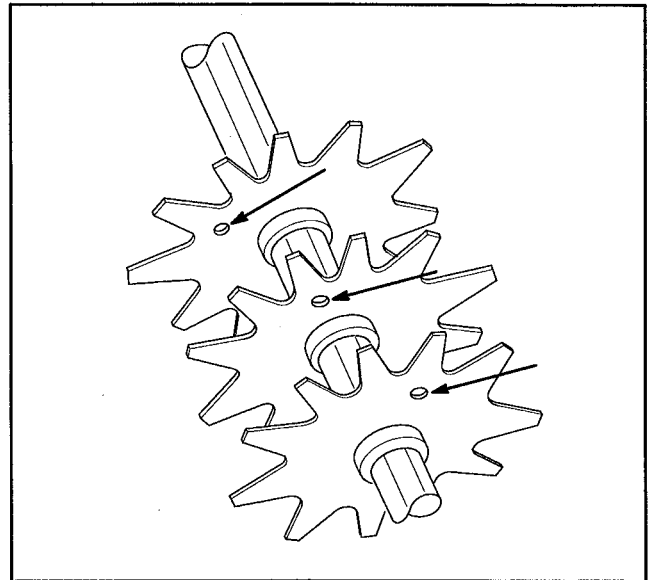

Figure 14
INSTALLING DETHATCHER BLADES (Fig. 14)
4. Install the next blade counter-clockwise so the index reference hole is not aligned with the first blade hole by one hex of the shaft (Fig. 14). Continue to install spacers and blades in this manner until the full complement of blades ave been installed. When properly assembled, the blades will be staggered in such a manner to give a helix appearance.